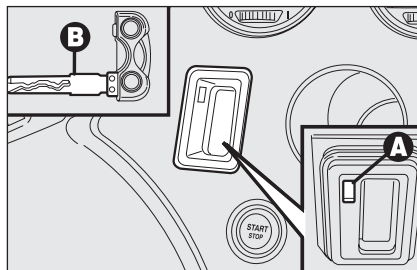

fig. 8
- ☐ fit the metal insert **B**-fig. 8 of the electronic key into the slot **A**;
**IMPORTANT** Do not fit into the slot **A**-fig. 8 objects other than the metal insert **B** of the electronic key.